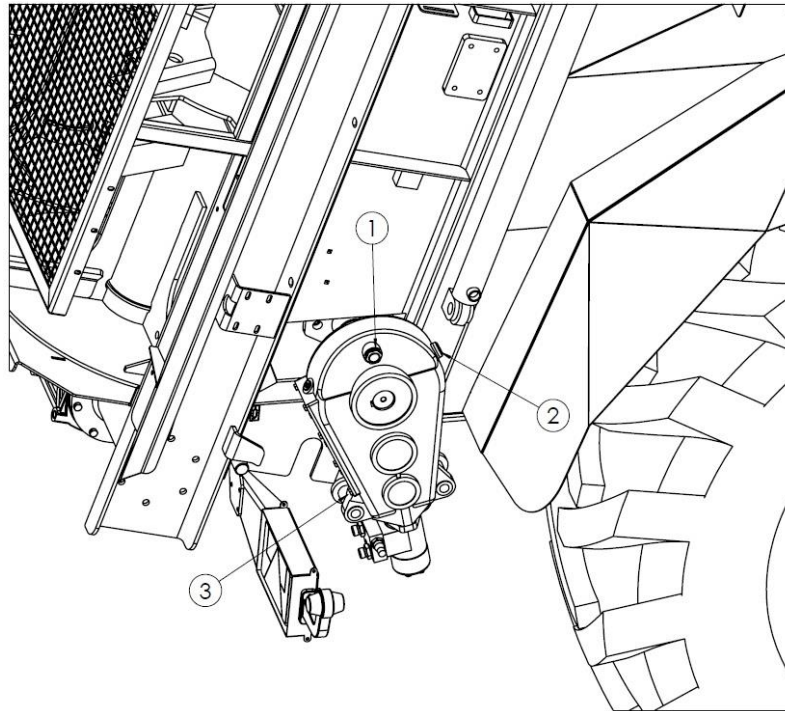

Fig. 34. Oil level check points of the floor conveyor gearbox. 1 – oil inlet (vent), 2 – oil level sight glass, 3 – drain plug
To drain the oil from the gear unit (Fig. 34, 35), unscrew the drain plugs (3). Fill the gearboxes with new oil via the oil filler (1) until oil becomes visible in a sight glass (2). The correct oil level is reached when the oil is visible in the middle of the sight glass.